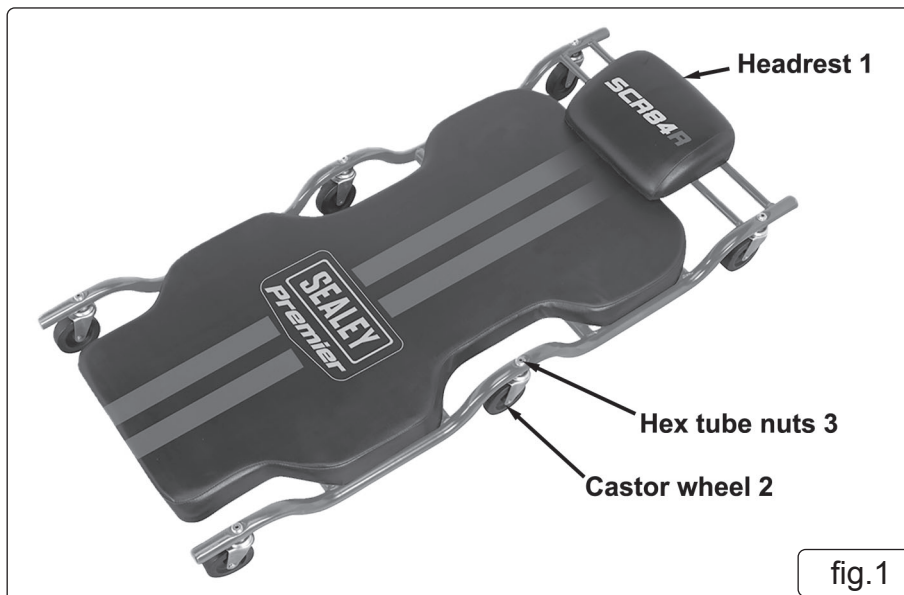

fig.1
- 4.1. Screw on headrest (fig 1 - 1) using four cross head screws from underneath.
- 4.2. Fit six castor wheels (fig 1 - 2) using hex tube nuts (fig 1 - 3).
- 6.1. As you slide under the vehicle and prior to sliding out on the creeper, keep your head flat on the headrest (fig 1 -2).